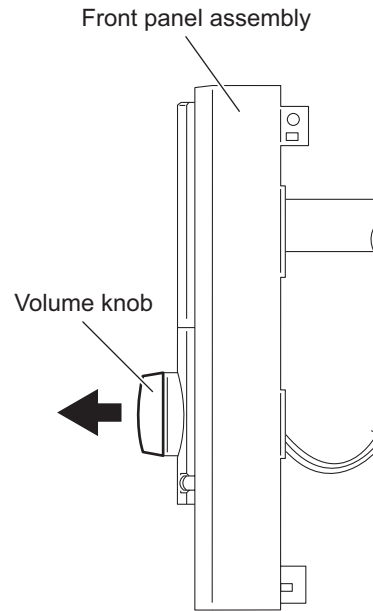

Fig.25
### 3.1.15 Removing the switch board (See Figs.25 and 26)
- (1) From the front side of the front panel assembly, pull out the volume knob in to the direction of the arrow. (See Fig.25.)